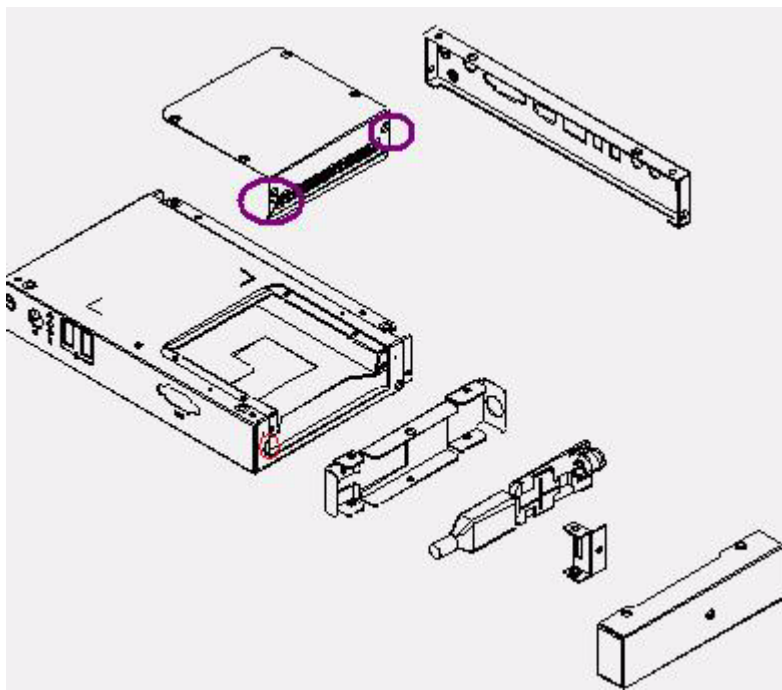

Figure 2.16 Screw the TV tuner card and TV tuner cover.
3. Connect the TV tuner cable crossing the reserved hole (marked with red color in Fig.2.16) to the TV tuner card.